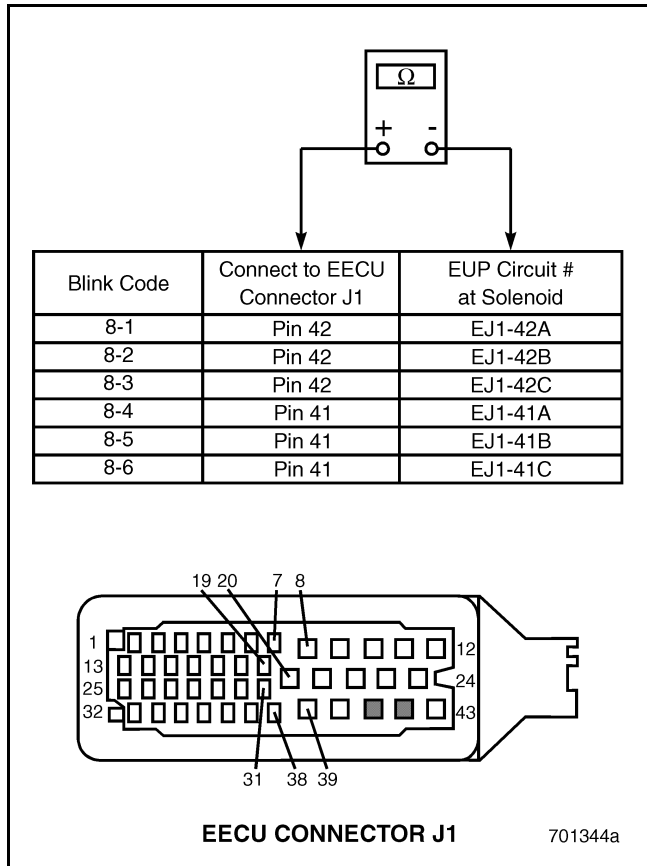

Figure 745
4. If blink code 8-1, 8-2 or 8-3 is set, check for continuity between EECU harness connector J1 pin 42 and the suspect EUP harness connector (see Figure 745). If blink code 8-4, 8-5 or 8-6 is set, check continuity between EECU harness connector J1 pin 41 and the suspect EUP harness connector (see Figure 745).